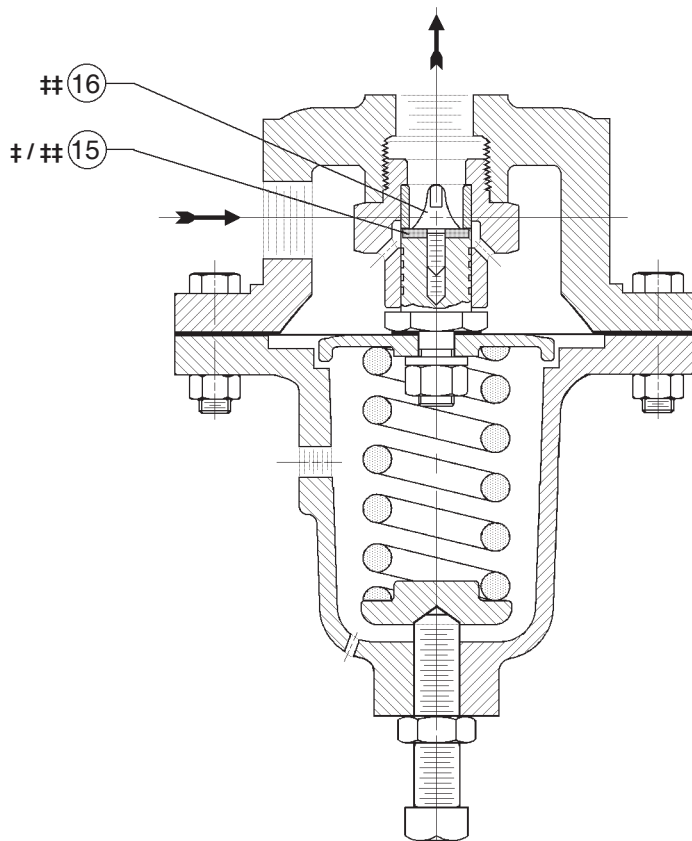

**Figure 1: Basic Model 123
3. Refer to Figure 1 for basic regulator, Figure 2 for cryogenic regulator, and Figure 3 for blow-up of the composition seat trim.